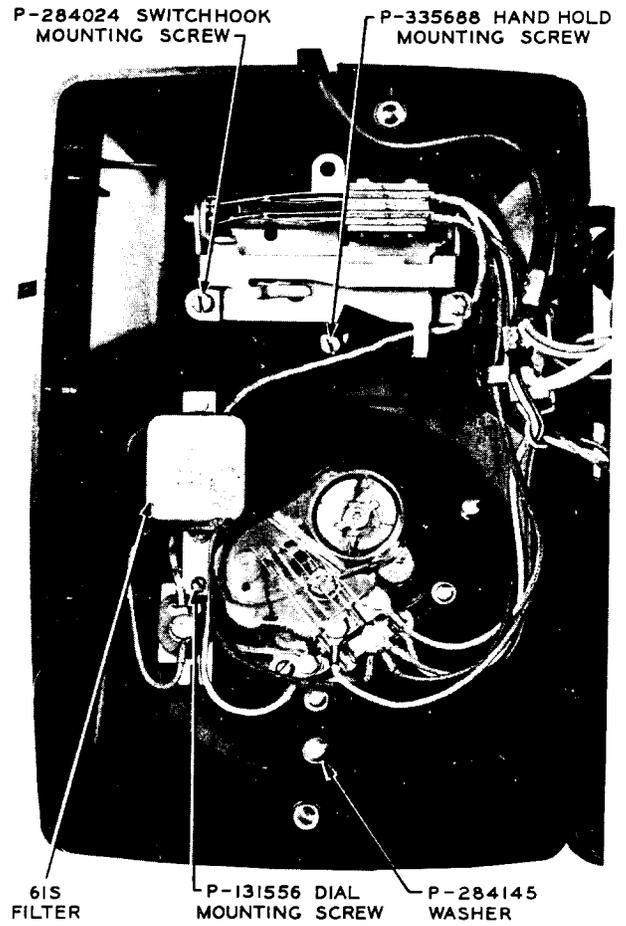

Fig. 8 - Filter and Switchhook Assembly
3.07 This set may be equipped with a 61S filter as shown in Fig. 8.
3.08 The switchhook assembly for this series is shown in Fig. 8.